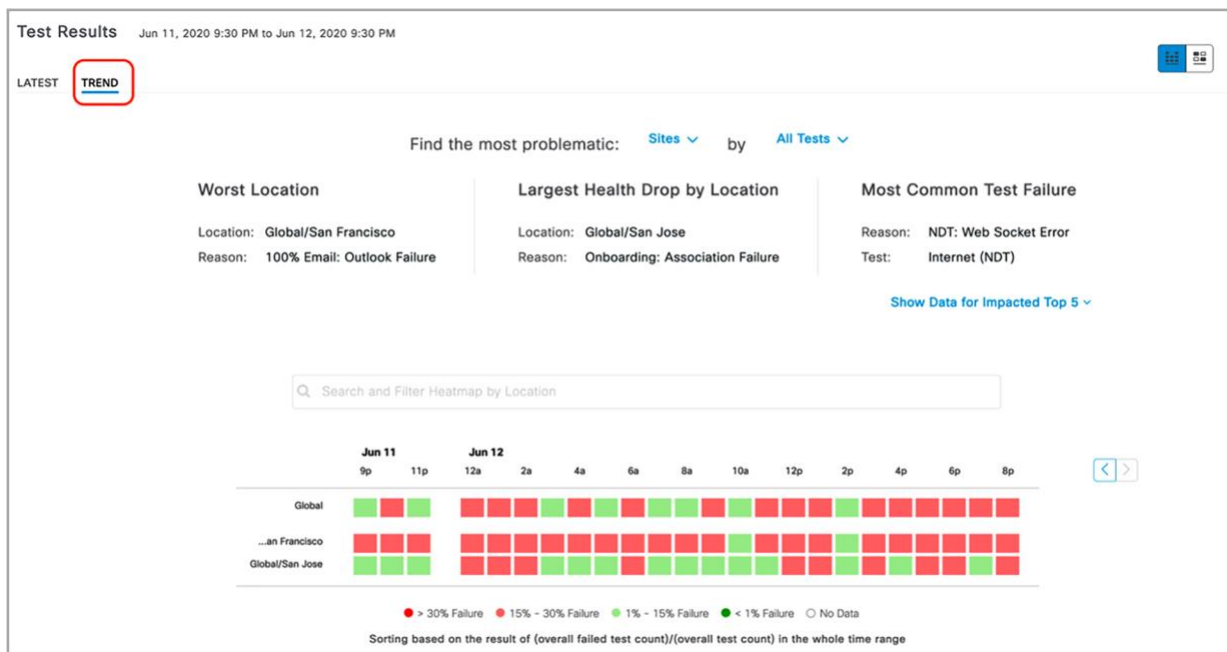

Figure 90.
- t. Click the X at the corner of the drill-down view to return back to the Wireless Sensors dashboard, then click the Trend button under Test Results to view the 24-hour trend of the heatmap (**Figure 90.**).